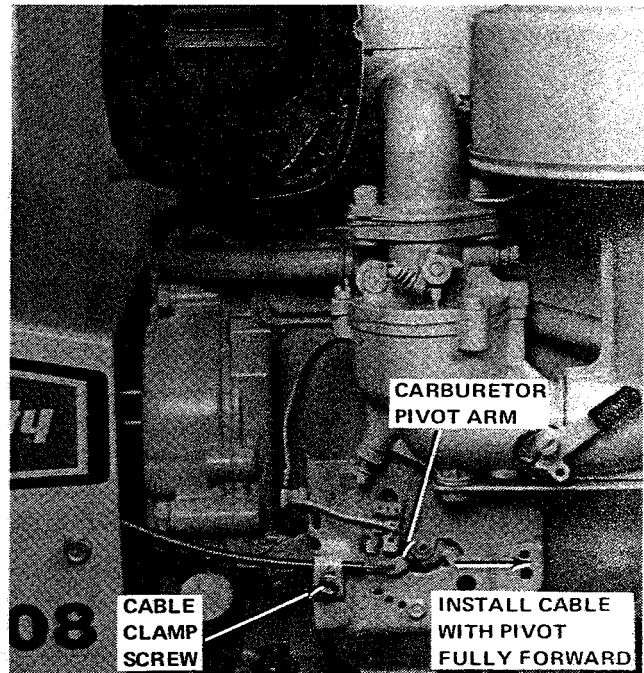

Figure 19. Installing the Cable
5. Loosen cable clamp screw on engine (see figure 19). Then hook cable end in carburetor pivot arm and place throttle cable under the clamp.